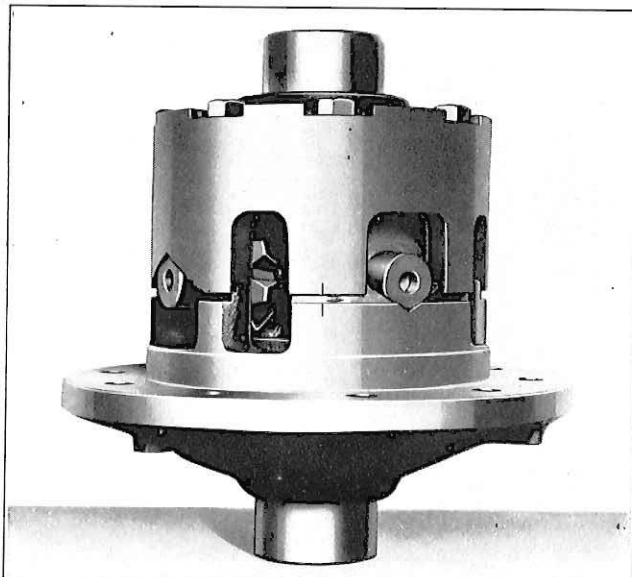

Fig. 2—Differential Case Alignment Marks
1. Check that the differential case halves are marked with a number or letter to aid aligning the case when assembling. If not, scribe an alignment mark as shown in Fig. 2.